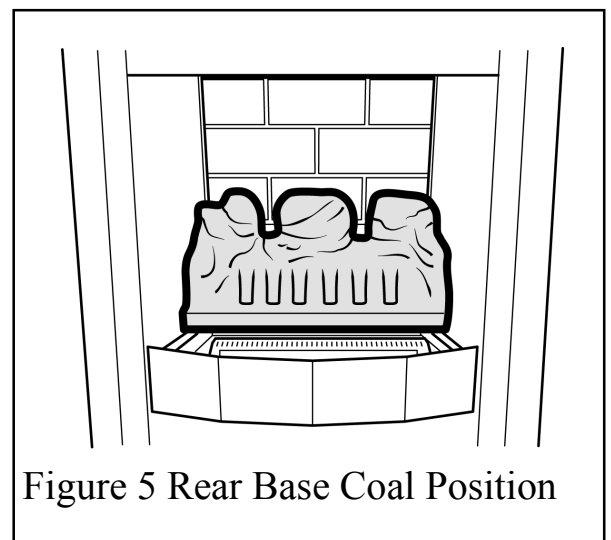

Figure 5 Rear Base Coal Position
1. Place the rear base coal in the firebox. It should rest on the ledges at the sides and back of the firebox and its rear face should touch the rear ceramic wall. See figure 5.